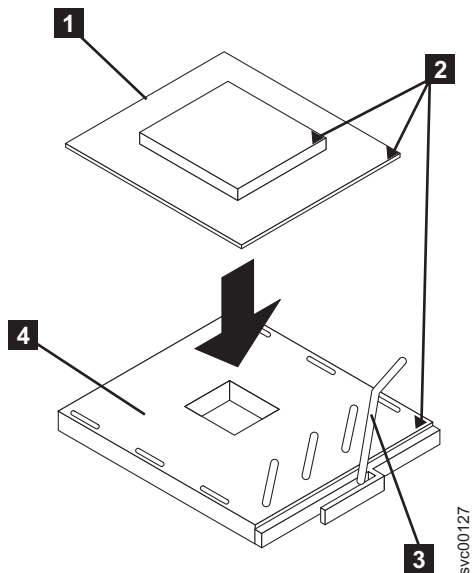

Figure 269. Microprocessor locking lever in open position
3. Rotate the locking lever **3** from the closed position to the open position, as shown in Figure 269.